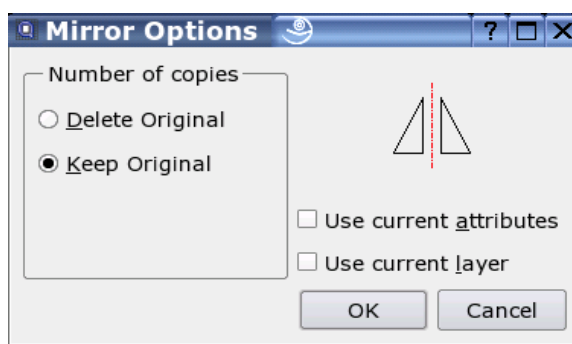

Figure 53: Mirror options dialog.
5. The mirror dialog is displayed (Figure 53). To mirror the entities without keeping the original entities, choose "Delete Original", to copy them choose "Keep Original". The copy will have the same attributes and be on the same layer as the original entities. To change that default behavior, you can check "Use current attributes" or "Use current layer".